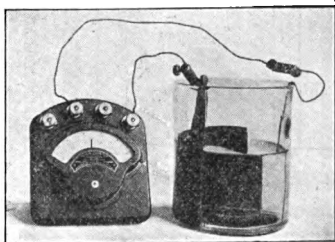

FIG. 191.—POLARIZATION
**219. Polarization.** If we examine the surfaces of the zinc and the copper as they stand unconnected in the dilute sulphuric acid, no action will be apparent if the zinc is pure. When we connect them by a wire outside the liquid, however, a layer of gas forms over the surface of the copper and bubbles rise from it. These bubbles are hydrogen gas that has been set free by the chemical action taking place in the liquid. Let us use a very large copper plate and a piece of zinc wire (Fig. 191), connecting them through an instrument that indicates the current strength, called an *ammeter*. We shall